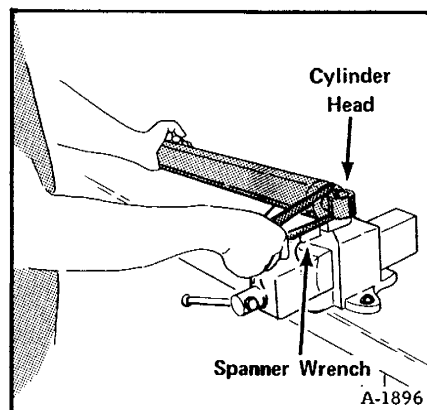

Fig. 2-20 Cylinder Spanner Wrench
- (1) Remove the cylinder from the machine.
- (2) Use a spanner wrench to remove the head from the cylinder (Fig. 2-20).
- (3) Pull the rod and piston assembly from the cylinder case.